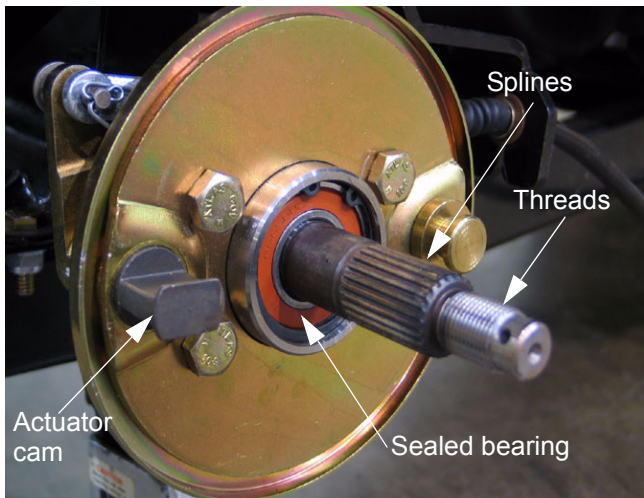

Figure 2.14
2.14. Inspect the bearings, seals, splines, threads, and cam. See Figure 2.14.